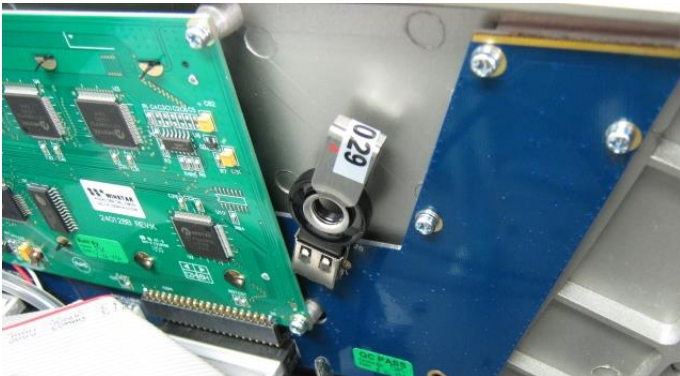

Figure 6 – Installation of USB Memory Stick
1. Open the lid and ensure the USB memory stick is installed (refer to Figure 6).
6. Remove the USB memory stick and pack with instrument (refer to Figure 6).